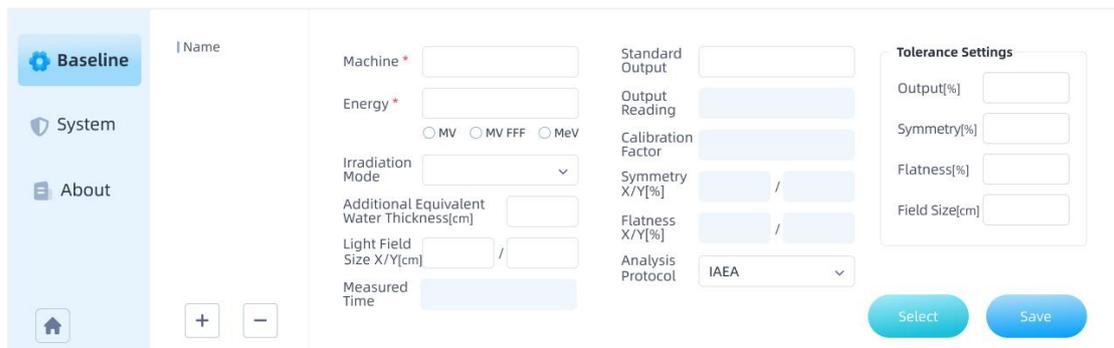

Figure 11. Settings \_Baseline\_ Add a New Baseline
- The data selected through  will be automatically populated in Figure 11 but will not overwrite any previously filled fields.